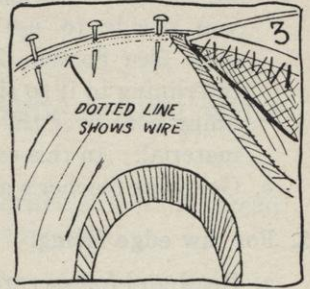

FIG. 3.
- (1) Estimate the amount of lace wire needed, allowing at least 3 inches extra, and cut it from the roll with the nippers.
- (2) Take some of the curve out of the wire, by running it between the thumb and the index finger, bending it slightly to curve in the opposite direction.
- (3) Start near the back of the brim, with about 2 inches of wire extending, and roll $\frac{1}{2}$ inch of the material, that extends beyond the edge, over the wire about one-fourth of the way around the edgewire; pin it in place at edgewire by sticking pins through the facing and into the frame just under and inside of the wire (see Figure 3, page 134).